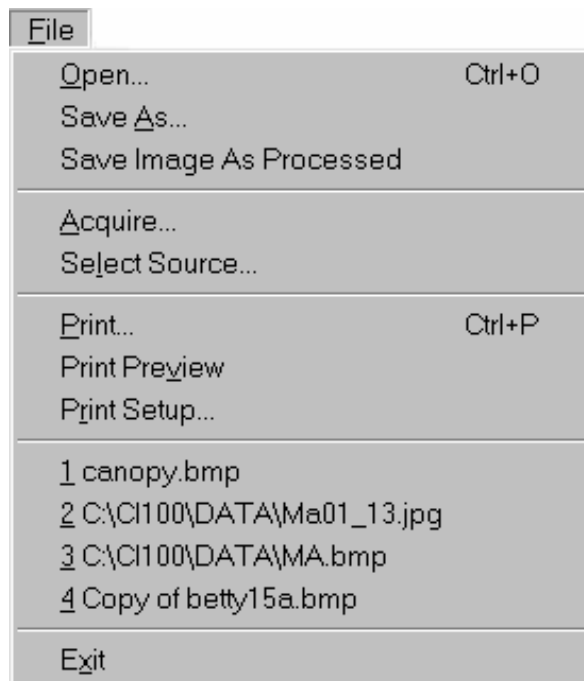
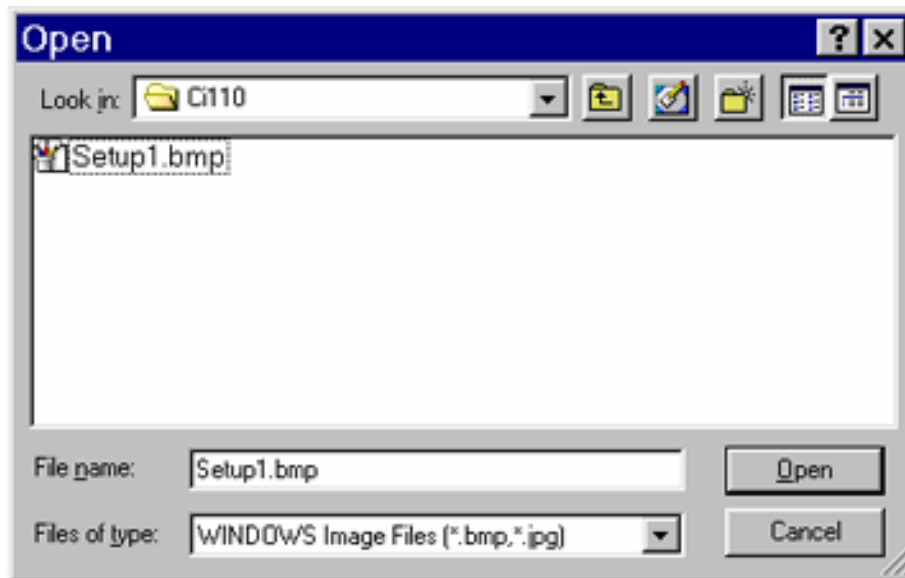

Figure 3-1. File menu.
Figure 3-4. Open image file dialog box.
1. Choose the **File** menu **Open...** command (Figure 3-1) or click the **Open** icon (see *Toolbar* in Chapter 1 for illustration). The **Open** image file dialog box appears (Figure 3-4).